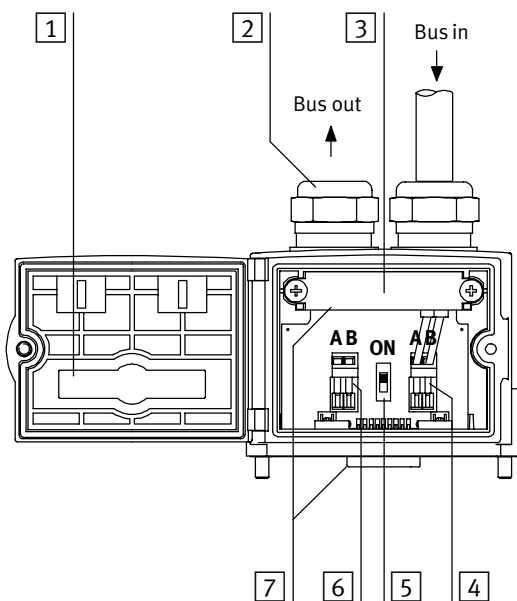

Fig. 1/6: Field bus plug from Festo, type FBS-SUB-9-GS-DP-B
- Switch position ON: The bus termination is switched on and the continuing field bus cable is **switched off** (see Fig. 1/7).